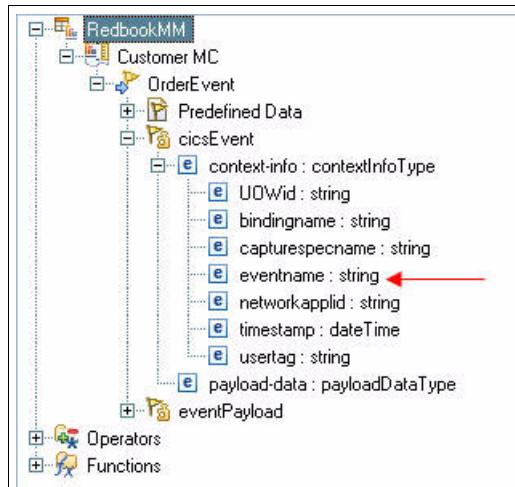

Figure 8-46 Content assist
2. Place your cursor in the editing pane and press Ctrl + Space to bring up the Content Assist. See Figure 8-46.